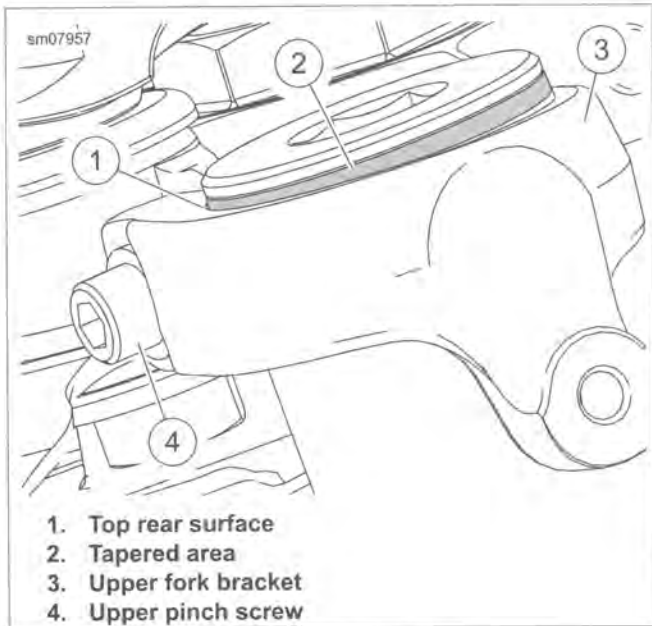

Figure 2-67. Fork Height
- a. Visual method: See Figure 2-67. Set fork height so top rear surface (1) of upper fork bracket is midway of the tapered area (2) at top of fork.